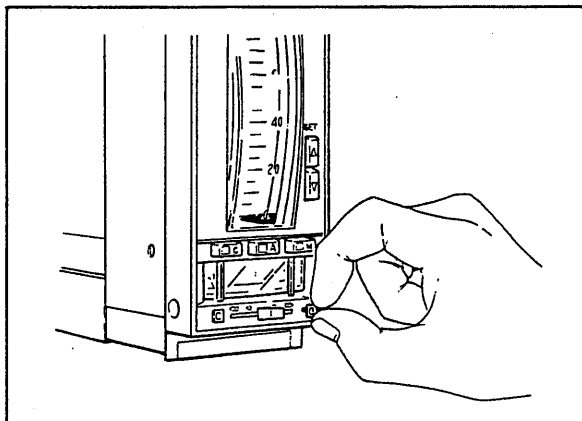

Figure 5-2-4. Mounting Control Valve Action Label.
- (1) Mounting control valve action labels (Figure 5-2-4). Match the label location with the action (direct or reverse action) of the control valve. The labels can be removed using tweezers or fingers.